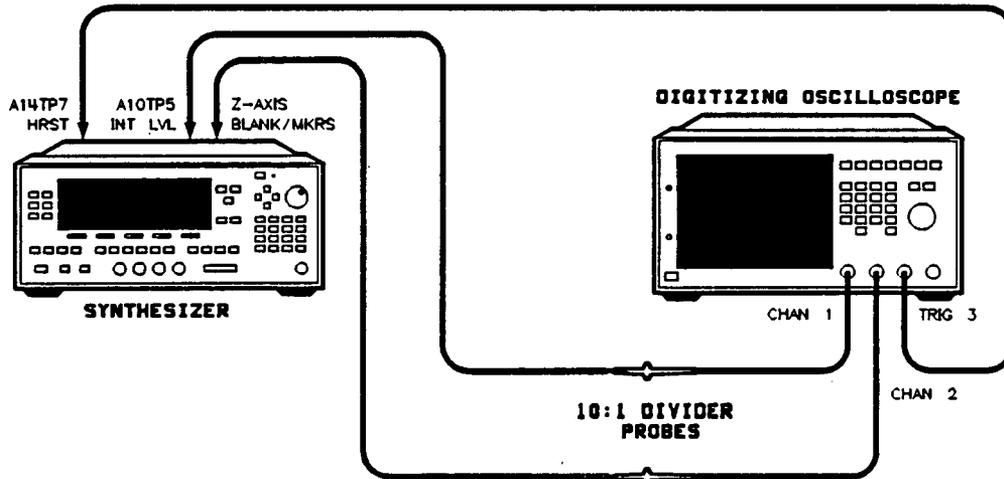

Figure 3-20. Low Power SRD Bias Adjustment Setup.
1. Connect the equipment as shown in Figure 3-20. Preset all instruments and let them warm up for at least one hour.